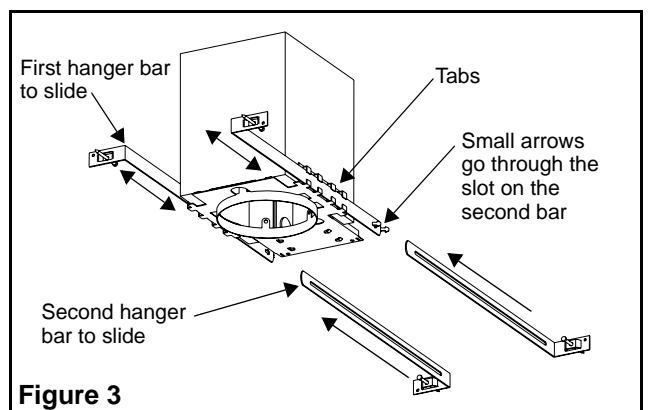

Figure 3
- a. Slide the hanger bars through the tabs on the back box. For each side, first slide the bar that has two small arrows at its end facing outside the box. Then slide the one with a long slot on top of the first one. The two arrows should go through the long slot on the second bar. Place the assembly between the framing members. Align the open round surface of the box where the finished surface of sheet rock will be and nail bars to the framing members (see fig. 3).
- b. Slide the hanger bars through the tabs on the back box (see fig. 3). For each side, first slide the bar that has two small arrows at its end facing outside the box. Then slide the one with a long slot on top of the first one. The two arrows should go through the long slot on the second bar. Place assembly on top of grid members.